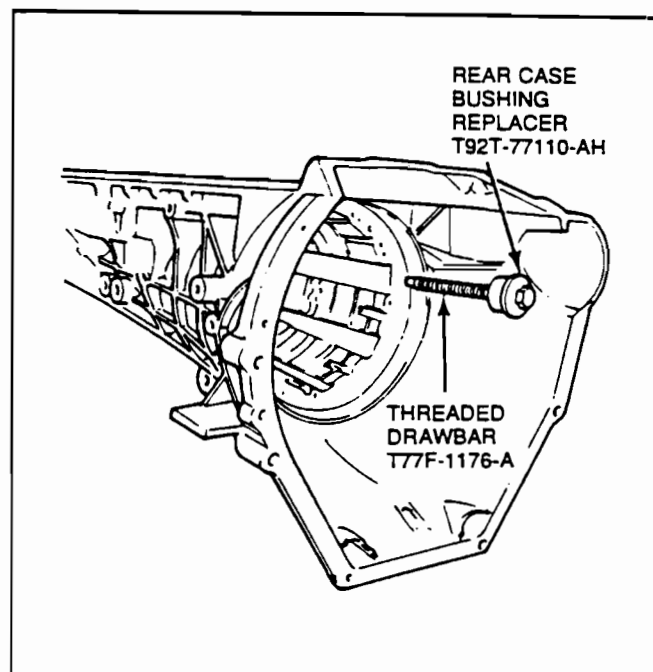

Figure 12
3. Place the remaining portion of the Rear Case Bushing Driver and a 5" (127mm) threaded drawbar through the front of the case into the front case bushing as shown in Figure 12.